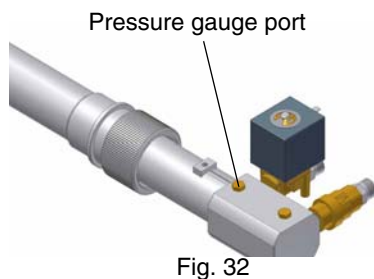

Fig. 32
- 9 the nozzle supply pressure is already factory-set and must not be changed. Only if necessary, adjust the supply pressure as follows (see related paragraph); insert a pressure gauge into the port shown on Fig. 32 and act on the pump adjusting screw **VR** (see Fig. 31 and page 20) as to get the nozzle pressure at 20 bar or 25 bar (according to the nozzle model provided: Bergonzo or Fluidics nozzles - see page 32-33).